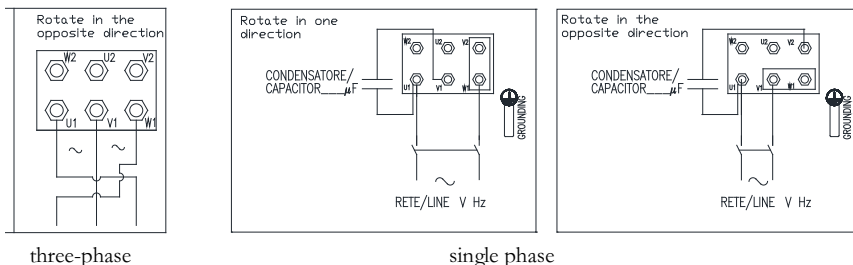

Figure7
3、Pay attention to the rotation direction of the vibration motor. If the rotation direction of the vibration motor needs to be adjusted, first cut off and lock the power supply / give a warning sign, then change the direction of vibrator rotation through changing the power cable connection order refer to figure 7.